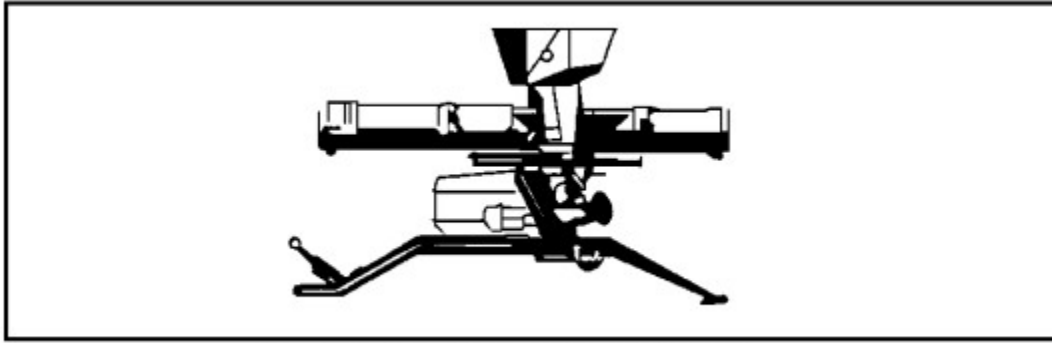

Figure 2-8. Antitank Guided Missile AT-3/SPIGOT.
(4) Remarks. The SAGGER, also known by the designation AT-3, was first seen in 1961. It is more compact than the earlier AT-1/SNAPPER and AT-2/Swatter ATGMs, but carries an equally powerful warhead. In recent years, the Soviets have retrofitted some SAGGER systems, designated the AT-3c, with semi-automatic IR wire-guidance systems. Only the vehicle- and helicopter-mounted missiles have been so retrofitted. This is obviously an interim measure pending the full deployment of the longer-range, second-generation AT-5/SPANDREL and AT-6/SPIRAL missiles. The AT-4/SPIGOT is replacing manpack SAGGERS as well as those mounted on the BMP-1 and BMD-1.
c. Antitank Guided Missile System AT-4/SPIGOT. The following paragraphs discuss the AT-4/SPIGOT Guided Missile System (shown in Figure 2-8).